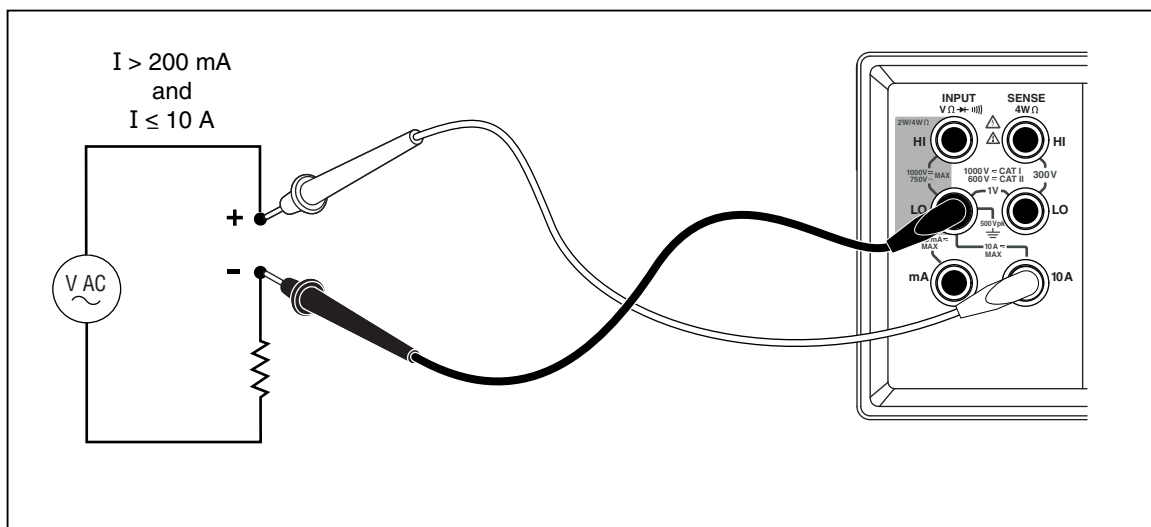

Figure 3-9. Current Measurement 200 mA to 10 A
5. For measurements expected to be 200 mA to 10 A, connect the test leads to the 10 A and LO terminals only. See Figure 3-9.